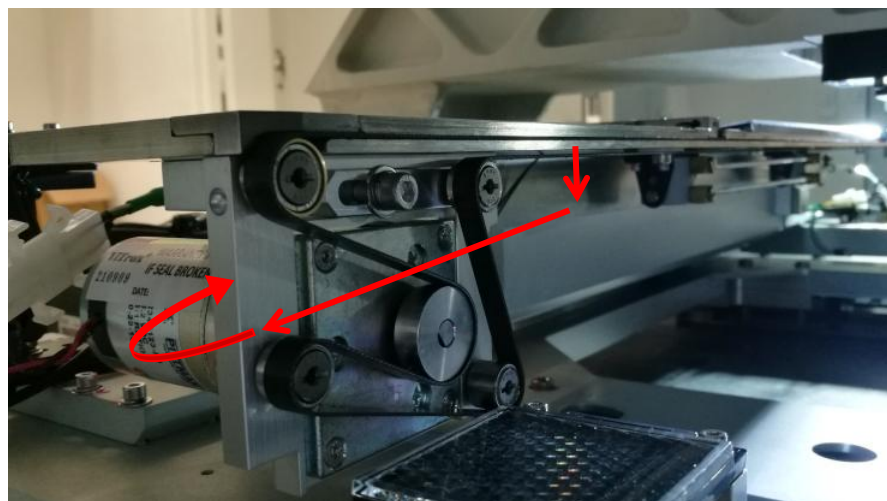
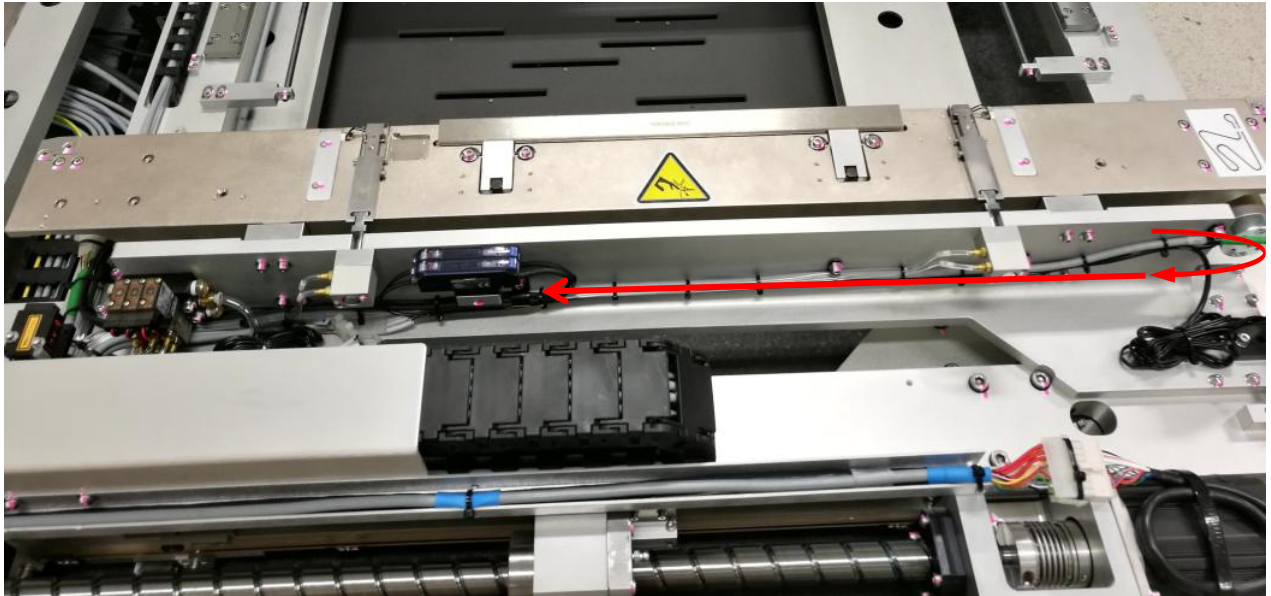

Figure 33 PIP Sensor Cable Routing
Figure 34 PIP Sensor Cable Routing
6. Route PIP Sensor Cable to Right amplifier by refer to below routing. May refer to Figure 33 & Figure 34